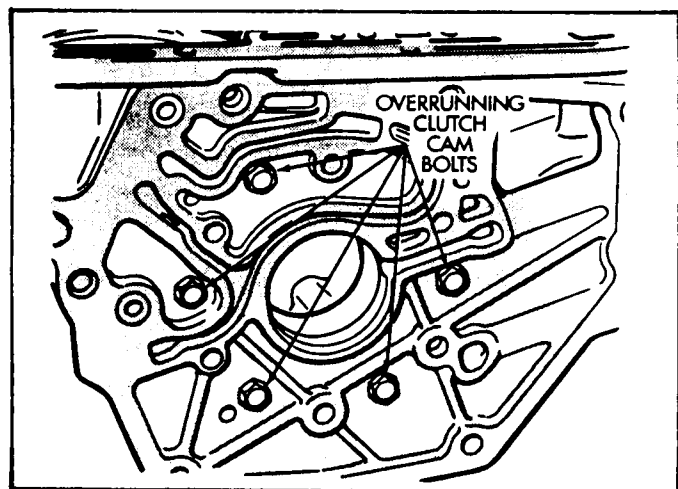

Figure 28
43. Remove the bolts attaching overrunning clutch cam to case, as shown Figure 28.